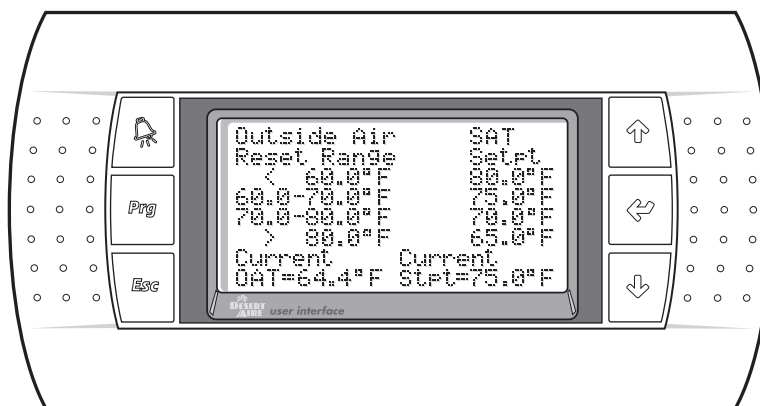

Figure 30
2.4.5. Outside Air Reset (Figure 30)